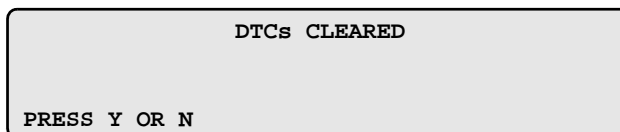

Figure 8-41 Typical SRS codes cleared screen message
4. The DTCs Cleared screen appears (Figure 8-41)